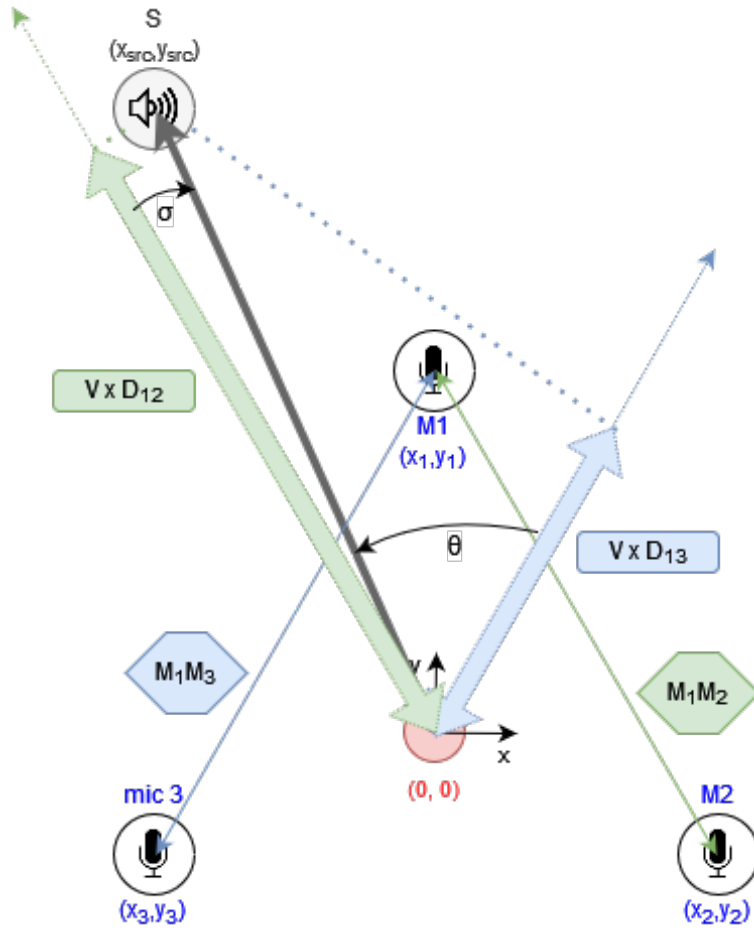
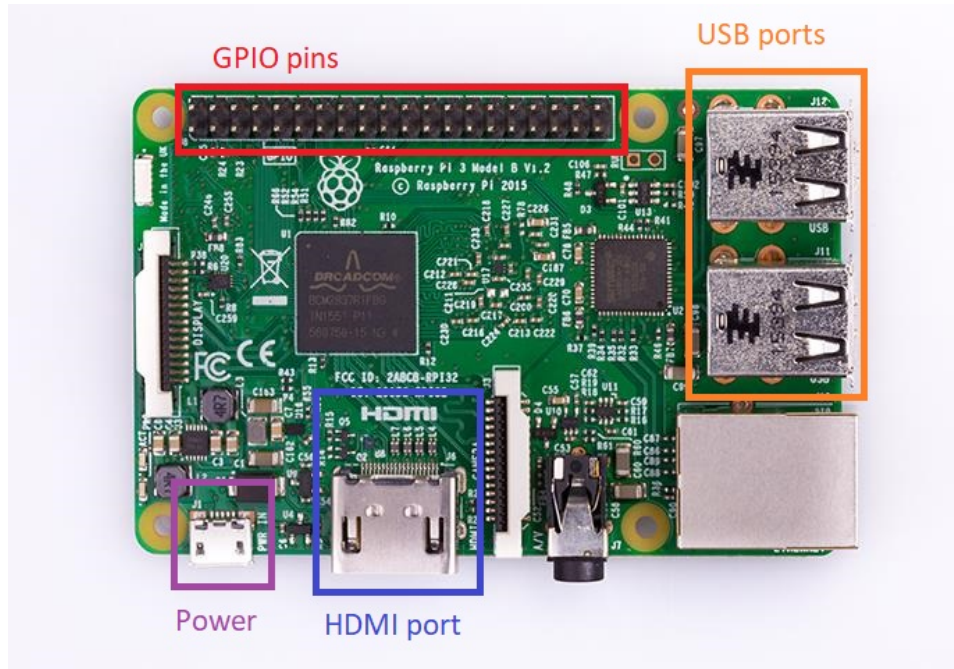
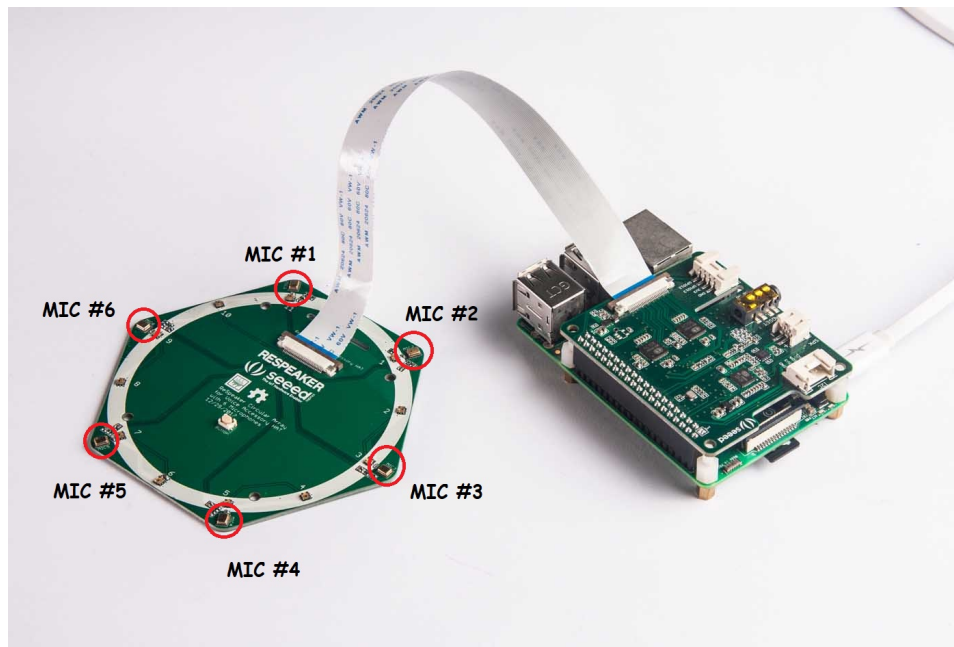

Figure 5: Microphone configuration and TDOA representations.
Figure 6: Raspberry PI 3B, with highlighted zones modified from [Mouser].
Figure 7: Respeaker 6-Mic Circular Array Kit from [Seeed Studio].
The time shift would allow us to understand which sensor gets the signal first. We can combine two time shifts to triangulate the source of the signal in a 2 dimensional space. Figure 5 shows the project configuration: three microphones are installed at the corners of a triangle, whose centre is the origin  $O$  (in red). A sound is produced at a random location  $S$  (in grey) and the goal is to obtain its coordinates.
The hardware on which your implementation will be uploaded consists of a Raspberry Pi 3 model B and a Respeaker 6-Mic Circular Array (cf. Figure 6 and Figure 7):
**Callback** The hardware used for the project sends in a stream the concatenation of data from multiple microphones each sampled at 44.1 kHz. In this project, three microphones only are required while six are available on the audio card (cf. Figure 7, which means that we have to save only half of the stream. As we intend to keep the same triangular shape formed by the mics (cf. Figure 5), we will select data from microphones #1, #3 and #5.